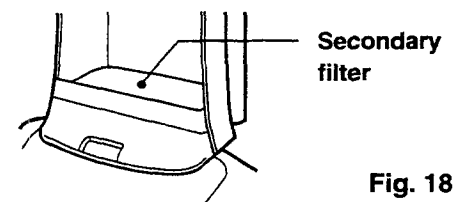

Fig. 18
- 1 First unplug the vacuum cleaner from the electrical outlet. Remove the secondary filter from the bottom of the paper bag compartment (Fig. 18) by lifting it out from under the retaining lip as shown.